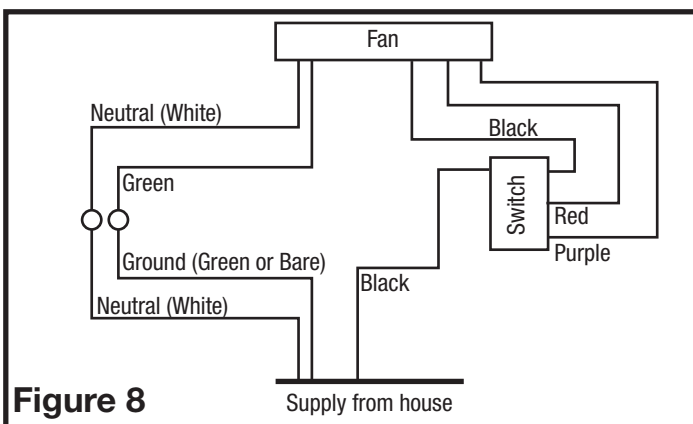

Figure 8
2. Connect the White wire of the fan to the White (Neutral) wire from the power source. Connect the ground wire from the house to the green wire from the fan housing. Using a properly grounded three function switch (not included) connect the Black wire from the supply to the switch. Connect the Black wire (fan) from the fan housing to one of the terminals on the switch. Connect the Red wire (light) from the fan housing to a separate terminal on the switch. Connect the Purple wire (night light) from the fan housing to a separate terminal on the switch (**Figure 8**). Use approved methods for all connections.